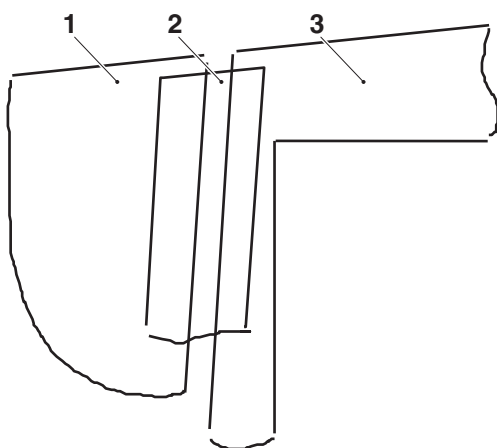
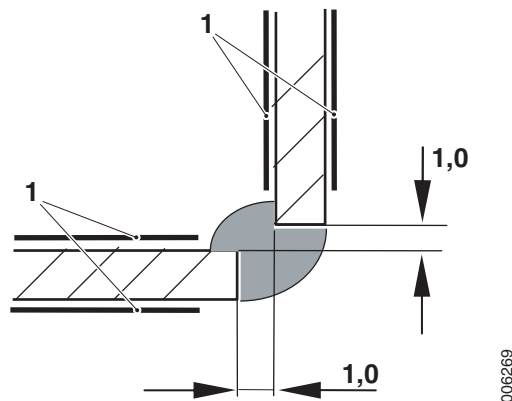

Figure 2: Adjusting side window - cab window
Figure 3: Adjusting side window - windshield
- 6 When the windshield or a side window is to be replaced, the window panes must be adjusted so that the upper edge on the side window has the same height as the top edge of the roof (see figure 2) and so that the distance between windshield and side window is as shown in figure 3.